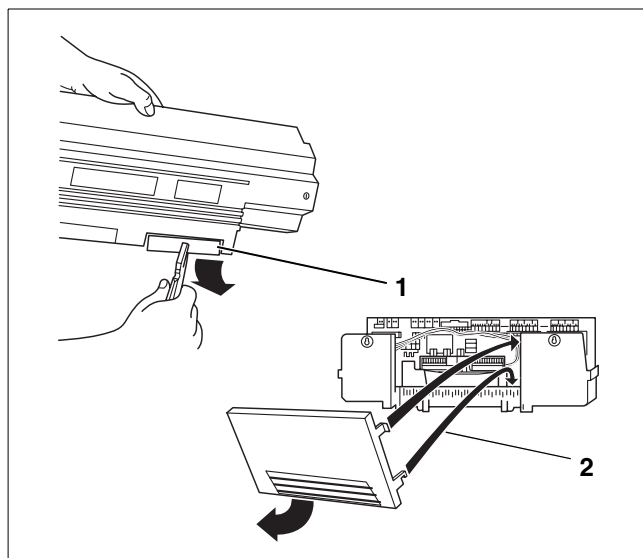

Fig. 59 Preparation – Cable opening
- Break open the closure (Fig. 59, **ref. 1**) in the rear wall of the cable opening if necessary (Logamatic 33..) or take off rear panel (Logamatic 43..) (Fig. 59, **ref. 2**).
- Fasten the hook at the bottom of the rear panel to the clip frame and then press in the top of the panel until the hooks at the side (Fig. 59, **ref. 2**) engage.